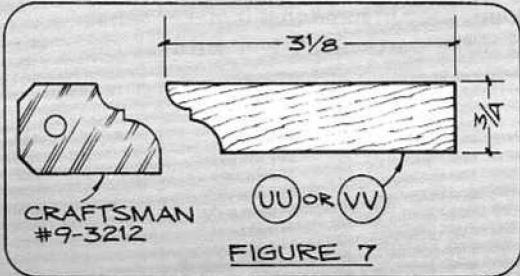

FIGURE 7
The hood base ends (UU) and front (VV) can be made next (Fig. 7). You'll need a piece of stock that's about 41 in. long to make all three parts. Keep in mind that these lengths provide a little extra for later trimming.